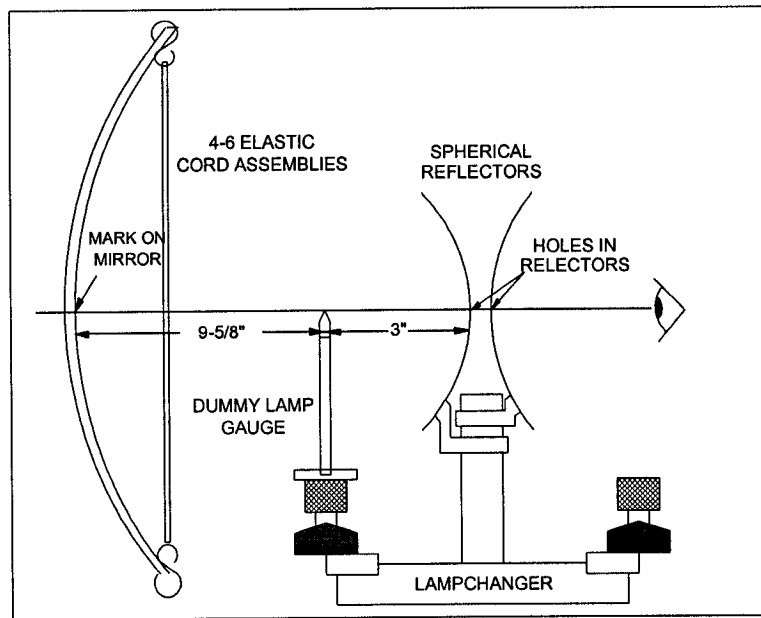

Figure 3-8
- c. Using the reflection of your eye in the large mirror, look directly into the beacon until the reflected image of the elastic cords are over their reflection. The reflected center of your eye should now be at the center of the mirror, as shown in Figure 3-8. Mark this point on the
- e. Install only the spherical reflector in the position of the operating lamp. Sight through the center of the reflector and align it until the mark on the mirror, intersection of the elastic cords, dummy lamp gauge and the holes in the spherical reflector are lined up (Figure 3-8). The distance from the spherical reflector in the operating position to the tip of the dummy lamp gauge should be 3" (use 3" measuring tool to check). Align as necessary then tighten fasteners securing the reflector.
- i. Check the focus of the lantern by installing the focus fixture (see figure 3-8) in the operating position of the lampchanger (closest to mirror).